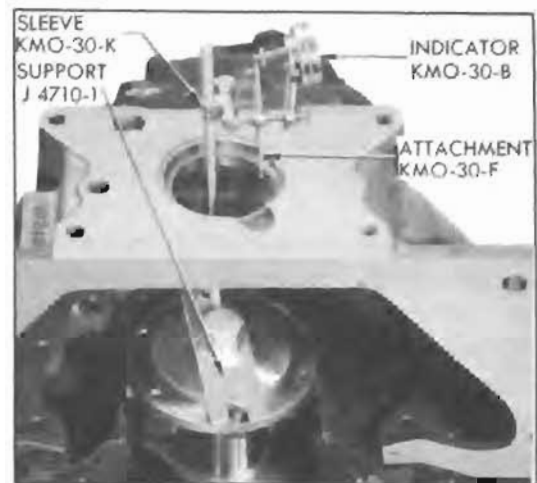

Figure 2-44—Aligning Housing
4. Install dial indicator as shown in figure 2-44 and check run-out at pilot hole in housing.